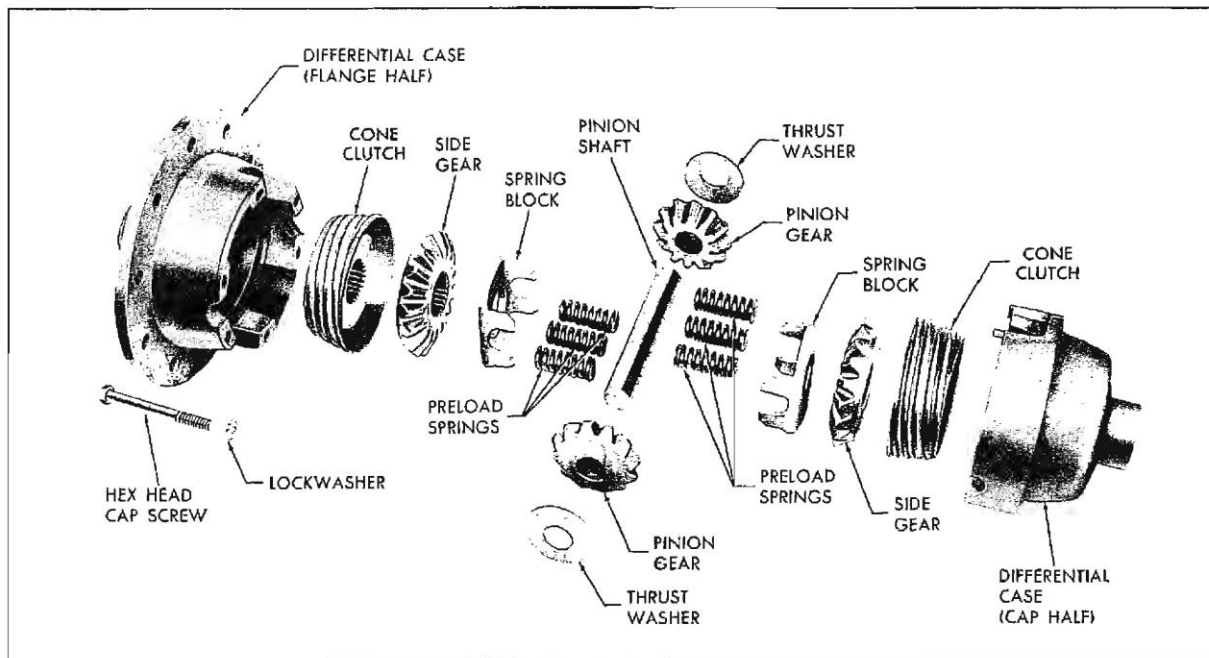

Fig. 4-48 Exploded View Safe-T-Track
11. Scribe mark or paint differential case halves (Fig. 4-48) to aid in alignment of case when assembling.